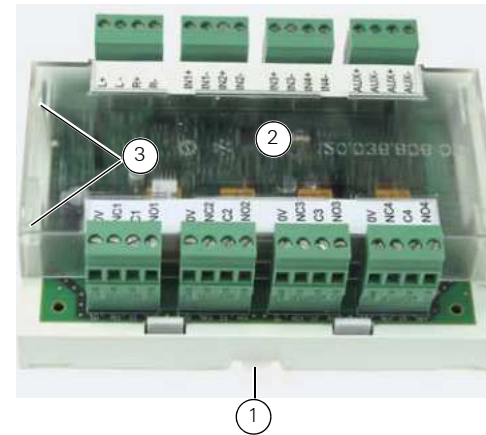

Fig. 1: FC410QIO Quad Input/ Output Module
Figure 1 shows the FC410QIO Quad Input/Output Module, part number 555.800.771.
To remove the clear plastic cover, release each of the four locking tabs in turn (see item 3 in Figure 1). Use a screwdriver to press the tab inwards, while pulling upwards on the cover.